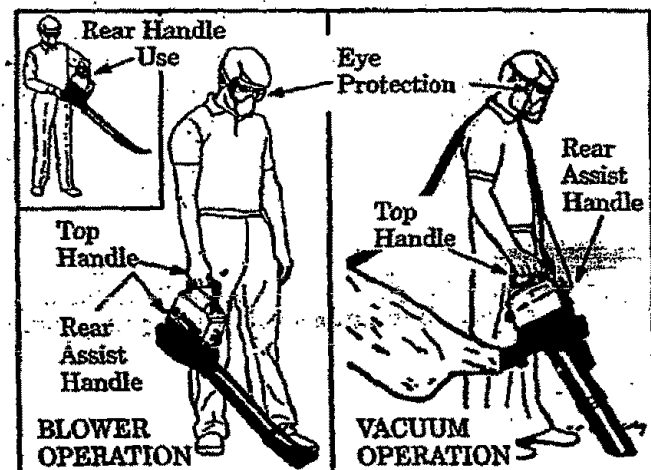

Figure 9
9. Use the correct operating position. Figure 9. Do not overreach or use from unstable surfaces such as ladders, trees, steep slopes, roof tops, etc. Keep firm footing and balance at all times.